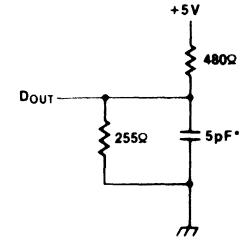

Figure 2. Output Load (for tHZ, tLZ, tWZ, and tOW)
4. Transition is measured  $\pm 200mV$  from steady state voltage with specified loading in Figure 2. This parameter is sampled and not 100% tested.
4. Transition is measured  $\pm 200\text{mV}$  from steady state voltage with specified loading in Figure 2. This parameter is sampled and not 100% tested.